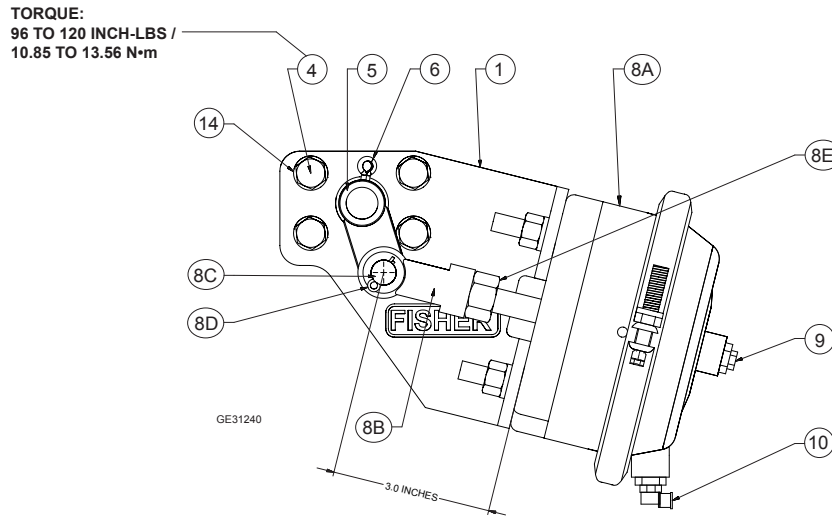

Figure 7. Type P614A for Type C404-32 Internal Valves
Type P614A—There must be no downstream pressure in the internal valve. Mount the bracket (key 1) to the flanges with 4 bolts (key 4) and lockwashers (key 14) using 120 to 180 inch-pounds / 13.56 to 20.34 N•m torque as shown in Figure 7, fitting the operating lever (key 5) on the internal valve shaft.
(Figure 7)